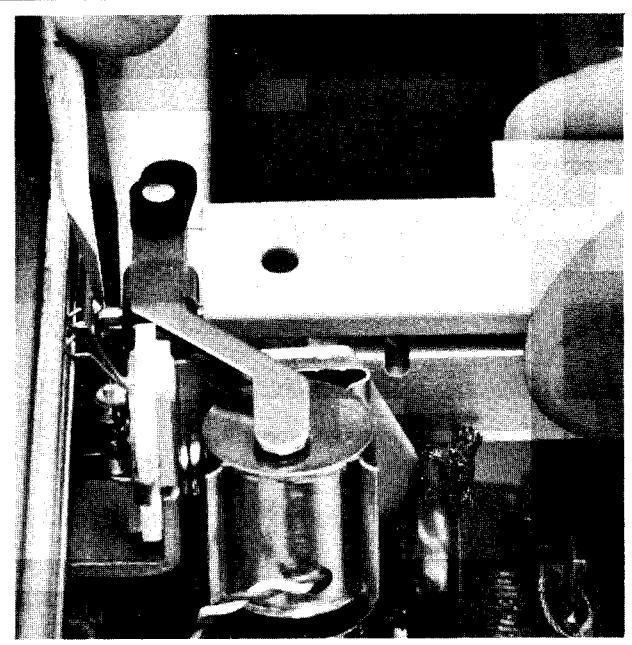

FIGURE 3-4. Y SLIDEWIRE COVER REMOVAL
- d. Slidewire cover on the Y arm may be removed by pushing back on upper cover support with thin-bladed screwdriver (see Figure 3-4). This disengages cover and fully exposes Y axis slidewire limit switch and drive components.
- d. Release Y slidewire cover and remove from arm (see Figure 3-4).